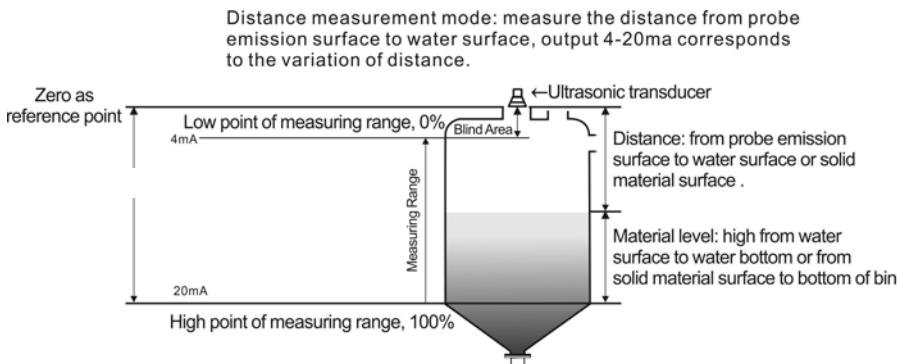

Fig. 1.1 Diagram of Distance Measurement
(3) Input probe height value to "reference zero point" (probe height is the distance from probe emitting surface to tank bottom or pool bottom).
① Under distance measuring mode, setting of **reference zero point** is meaningless and the positions of **maximum of measuring range** and **minimum of measuring range** are as shown in Fig. 1.1.